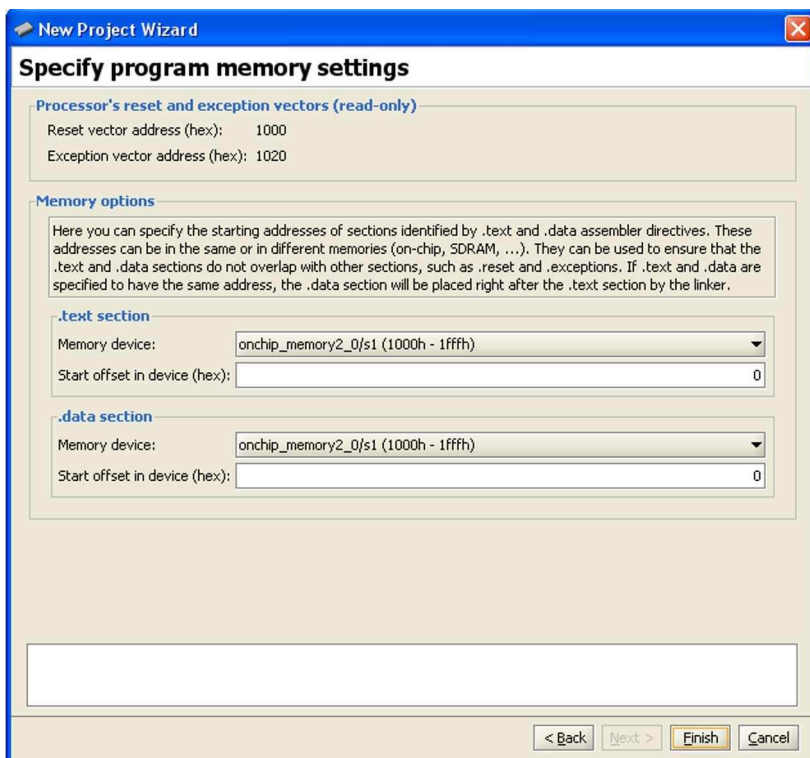

Figure 25.The program memory settings window.
10. The Altera Monitor Program also needs to know where to load the application program. In our case, this is the memory block in the FPGA device. The SOPC Builder assigned the name **onchip_memory2_0** to this block. As shown in Figure 25, the Monitor Program has already selected the correct memory device.
An application program written in the C language can be handled in the same way as the assembly-language program. A C program that implements our simple task is given in Figure 25. Enter this code into a file called `lights.c`.